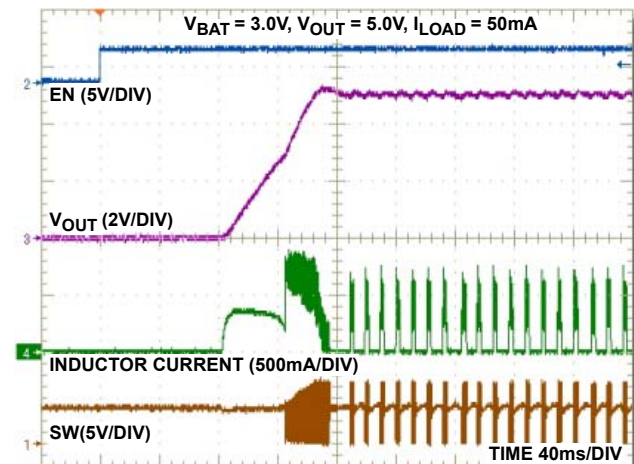

FIGURE 2. START-UP AFTER ENABLE ($I_{LOAD} = 50mA$)
6. Monitor the output voltage start-up sequence on the scope. The waveforms will look similar to Figure 2.